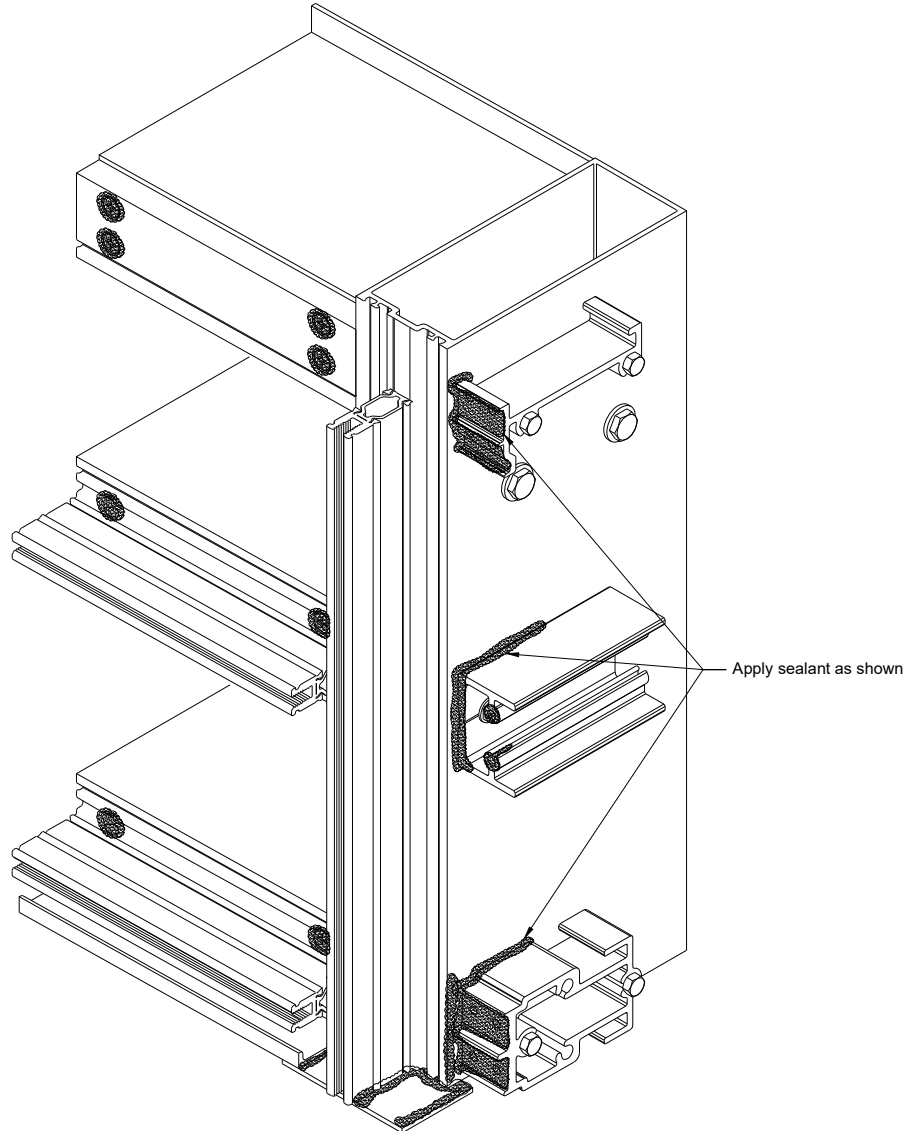

Figure 44: Shear Block Sealing
15.1 Just prior to installing the horizontal member, seal around shear blocks as shown in *Figure 44*.